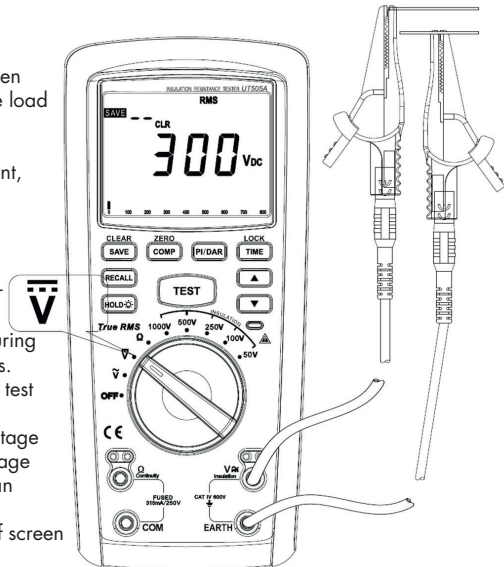

FIGURE 5
2. DC voltage measurement (see figure 5)